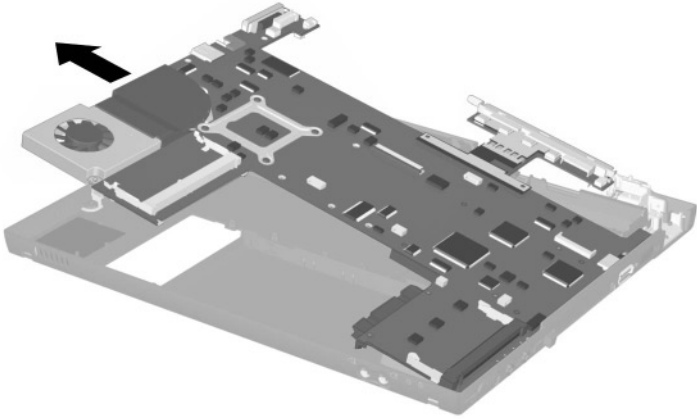

Figure 5-35. Removing the System Board
- Slide the system board to the left to remove it from the base enclosure (Figure 5-35).